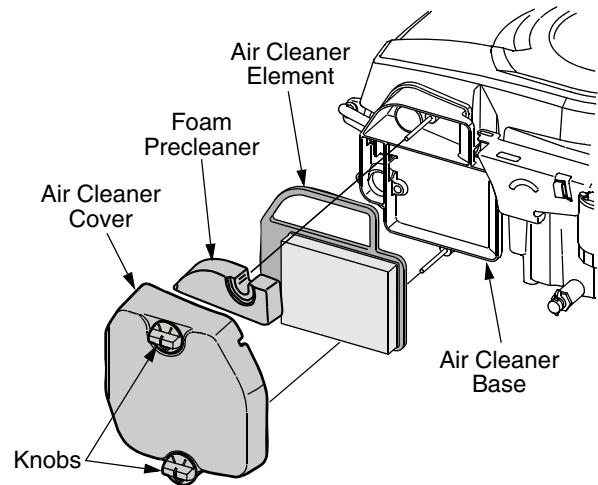

Figure 25
- Loosen the air cleaner cover knobs and remove the cover. Remove the precleaner from the cover. Refer to Figure 25.
- Remove the air cleaner element with the integral rubber seal. See Figure 25.